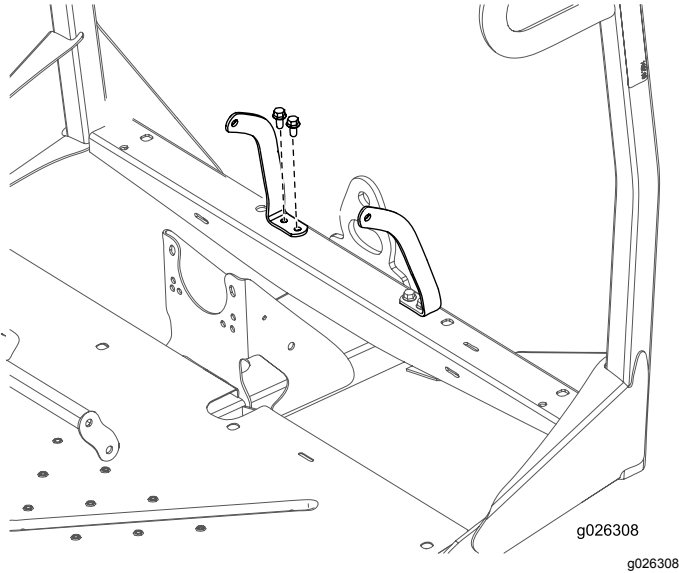

Figure 8
5. Secure the left and right seat belt anchor to the front frame with 4 bolts (3/8 x 3/4 inch) and 4 nuts (3/8 inch) as shown in Figure 8.